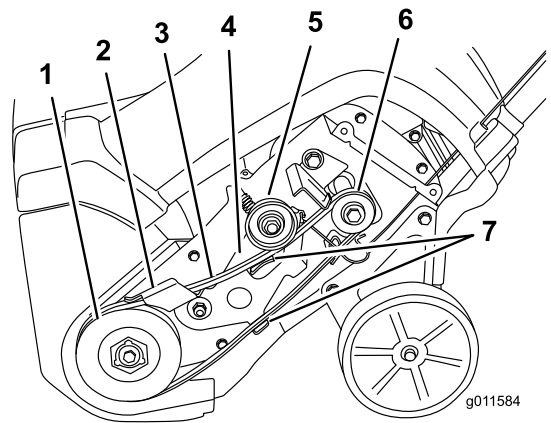

**Figure 30**
1. Remove the 4 bolts that hold the drive belt cover (Figure 30) in place.